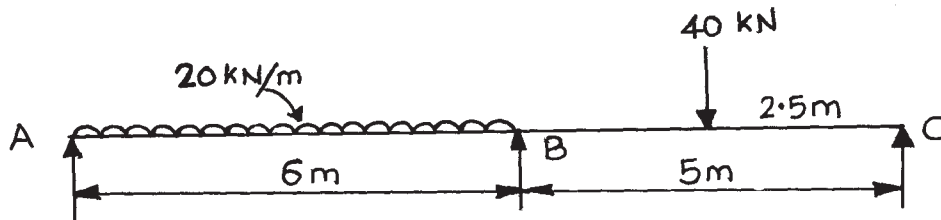

Fig. No. 6
b) Draw SFD for a continuous beam as shown in Fig. No. 6. having negative bending moment at support 'B' equal to 66.14 kN-m.